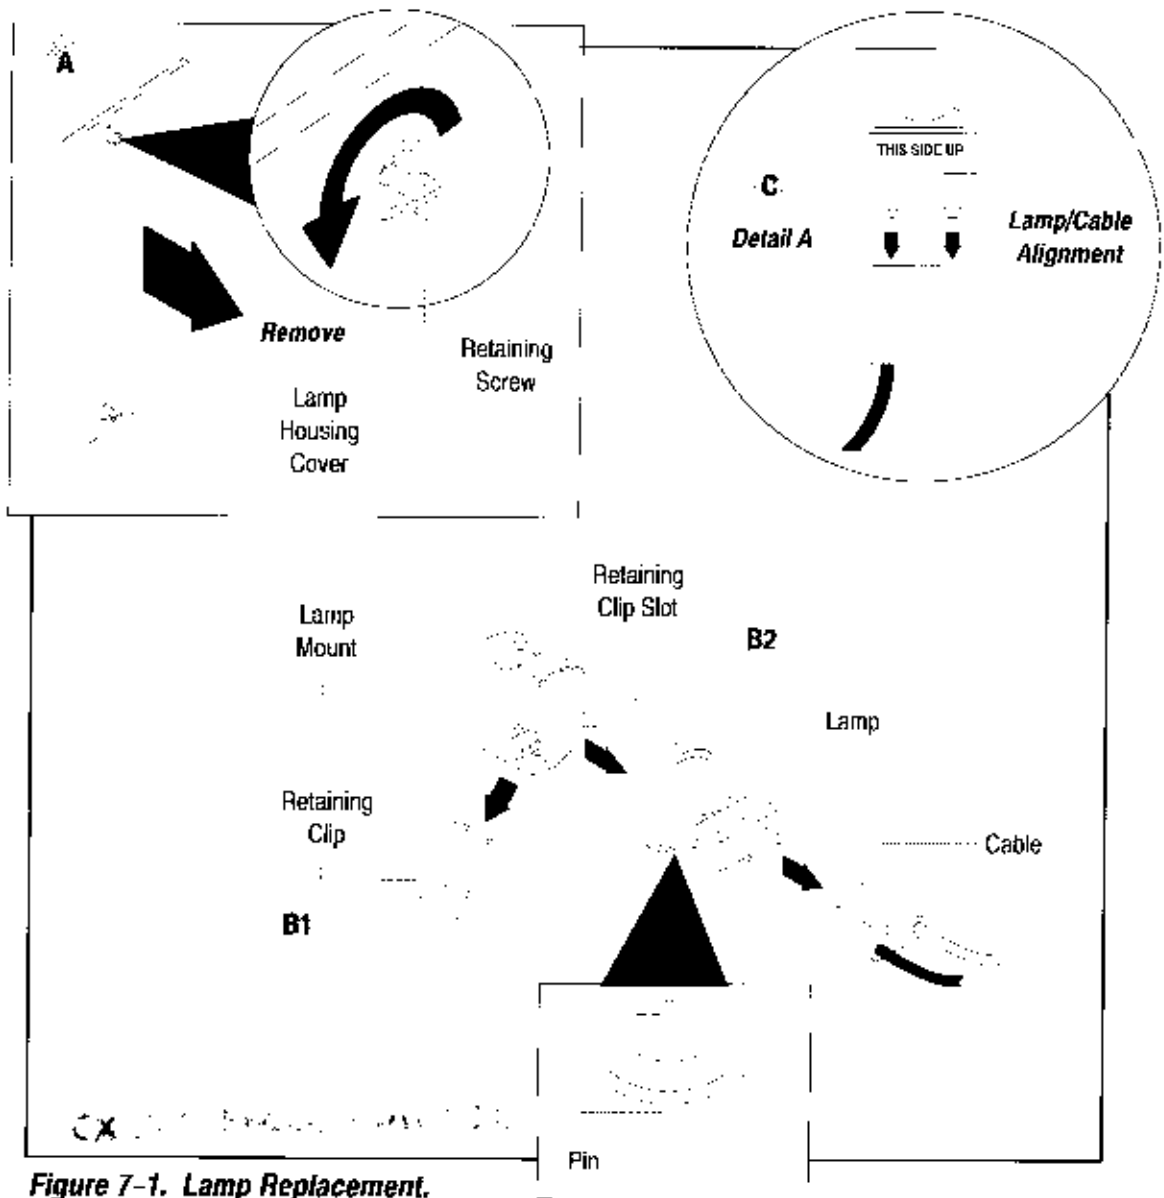

Figure 7-1. Lamp Replacement.
Order replacement lamp number CX9510. Refer to figure 7-1 for the following steps.
1. Connect lamp to cable (see figure 7-1, detail A).